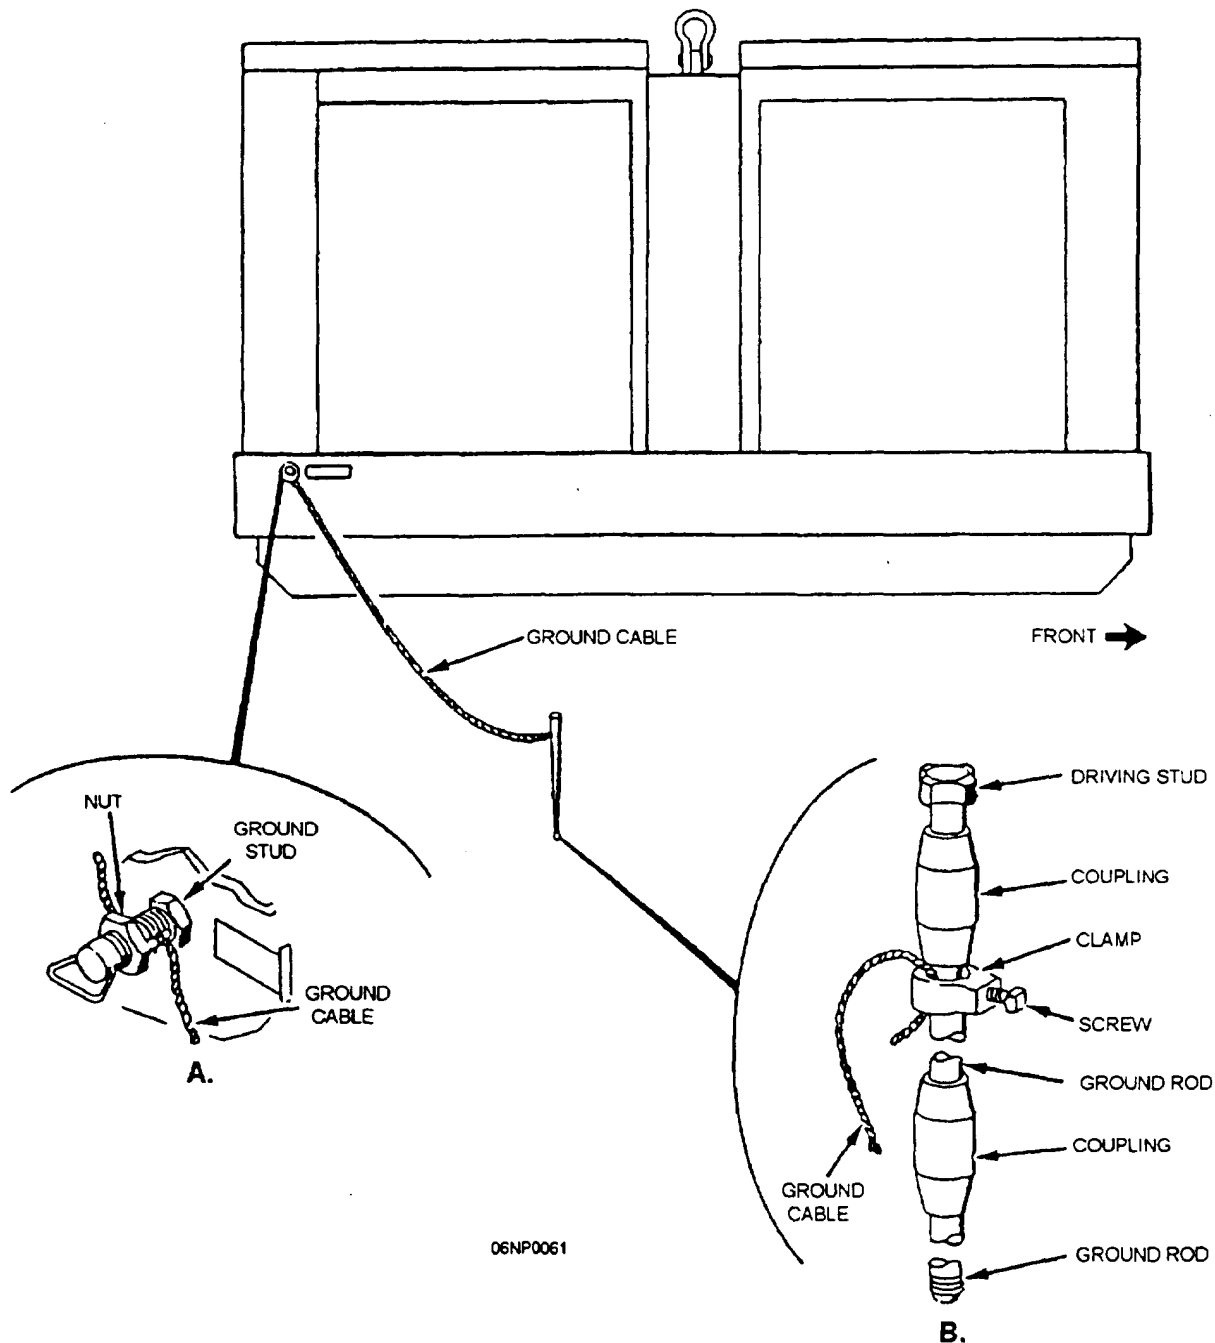

Figure 3-6.—Grounding procedure.
The ground lead must be at least No. 6 AWG (American Wire Gauge) copper wire. The lead must be bolted or clamped to the rod, plate, or piping system. Connect the other end of the ground lead to the generator set ground terminal stud (fig. 3-6, view A).
2. Connect a ground rod coupling to the rod and install the driving stud in the coupling (fig. 3-6, view B). Make sure that the driving stud is bottomed on the ground rod.
After you are sure you have a good ground, connect the clamp and the ground cable to the top ground rod section (fig. 3-6, view B), and secure the connection by tightening the screw.